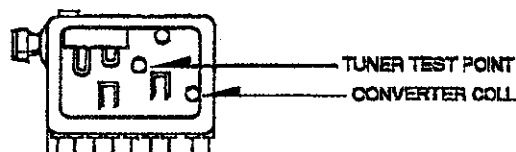

Fig. 1a
- A. Preparation step. (see fig.1a)